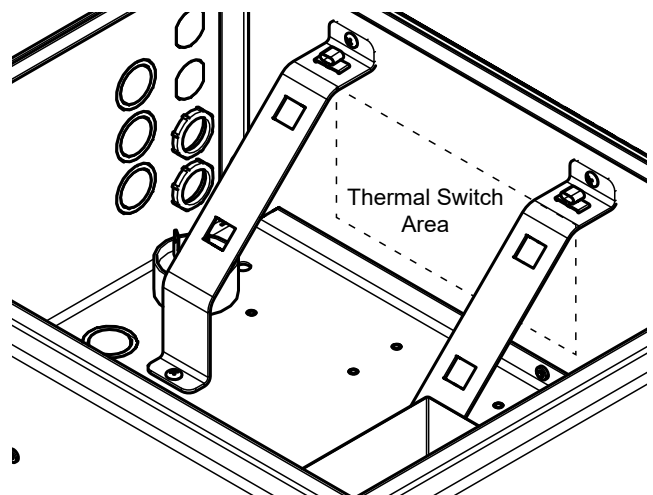

Figure 4. Install Thermal Switch
5. Install the thermal switch in the hole and fasten with two 8-32 x 1/2 in self-tapping screws (Figure 4).